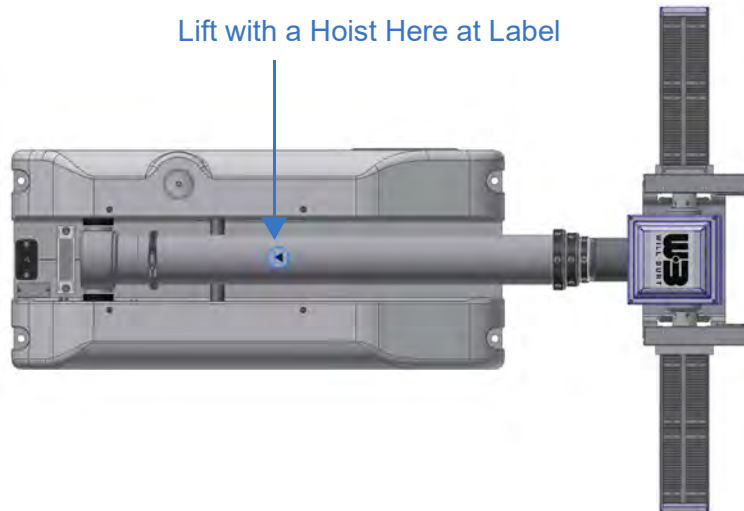

Figure 5-2 Center of Gravity Hoisting Position
6. Using a hoist, lift the Night Scan Chief from the shipping container by the mast tube at the labeled center of gravity symbol (Figure 5-2) position. Do not lift using the RCP or lights/camera. Lifting from locations other than those indicated could result in equipment damage. Use two point contact for slings to keep the load stable while moving.